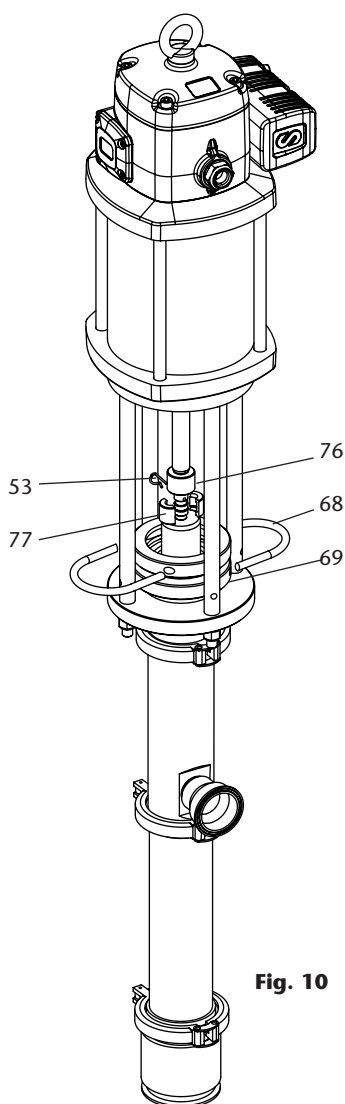

Fig. 10
5. Remove the spring clip which passes through the air motor piston rod (53). Lift the coupling cover (76) and remove the couplings (77). Allow the coupling cover to rest on top of the pump packing rod (1) until it is convenient to remove it (fig. 10).
6. While supporting the pump remove the spring (68) from the locking ring (69).